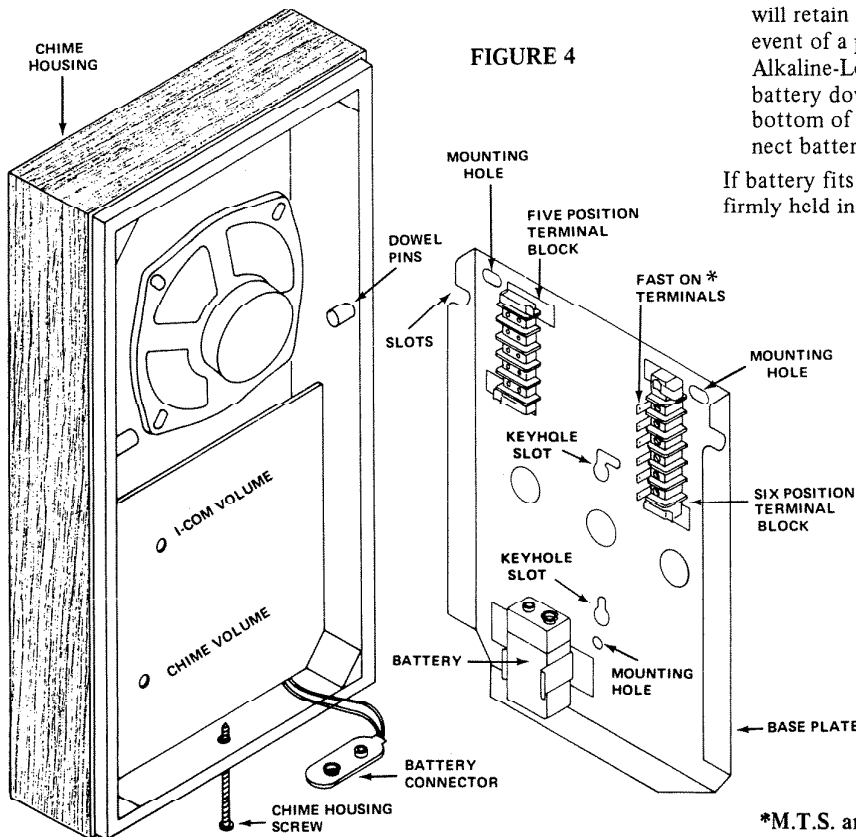

FIGURE 4
8. If a 9V transistor standby power battery is used, the chime will retain its memory for up to three or four hours in the event of a power loss. To install the battery (recommended Alkaline-Long Life Cell): (1) With terminals toward top, slide battery down between retaining tabs of battery clip until bottom of battery seats against the base plate flange. (2) Connect battery with snap-on connector. See Figure 4.
9. When wire connections are complete, mount the chime housing/PCB assembly to the base plate by sliding the housing's two dowel pins into the slots on the upper sides of the base plate. See Figure 4.
10. Tighten the screw at the bottom of the chime housing to secure the housing to the base plate. See Figure 4.
NOTE: If the chime's volume is too high or low, adjust the **CHIME VOLUME** control. Use a small screwdriver to make this adjustment. See Figure 4 for location of volume adjustment on the rear of the printed circuit board.
INTERCOM VOLUME ADJUSTMENT – The volume adjustment potentiometer for chime volume in intercom systems is factory set for normal chime volume. It may be necessary to readjust this control in some installations. This control is accessible through a hole in the printed circuit board and can be adjusted with a small screwdriver. See Figure 4.